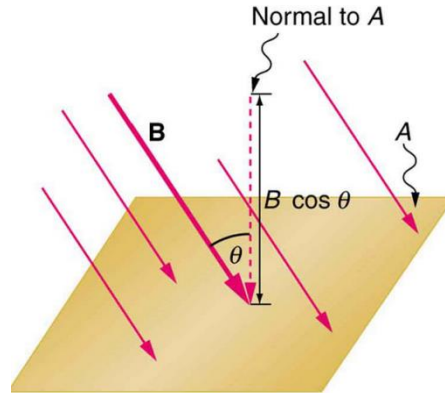

Figure 1.2: Magnetic Flux Density (**B**) crossing a surface area (**A**)
**Magnetic Flux:** The number of magnetic field lines (also considered as magnetic flux density) passing through a surface. Magnetic flux is a scalar quantity which is the *scalar* or *dot* product between the *magnetic flux density* vector and *vector* representing the area of the surface (a vector perpendicular to the surface with magnitude as the area of the surface), as shown in *figure 1.2*